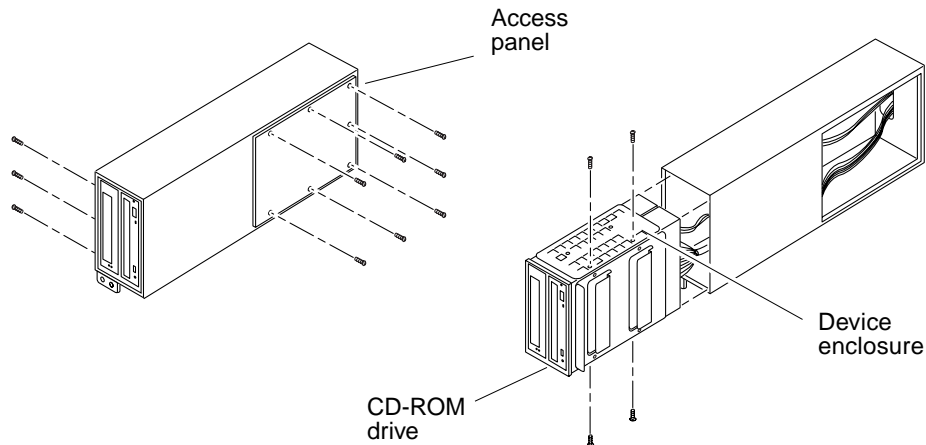
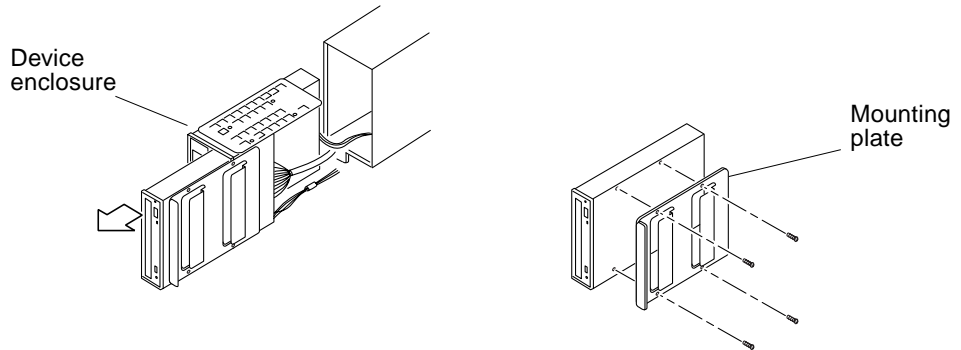

FIGURE 1-15 Removing the SCSI Tray Access Panel and Device Enclosure
FIGURE 1-16 Removing the CD-ROM drive and Mounting Plate
1. Remove the seven screws holding the access panel to the SCSI tray (FIGURE 1-15).
3. Release the device enclosure from the SCSI tray by removing three screws on the left-hand side. Pull the device enclosure out from the SCSI tray (FIGURE 1-15).
4. Remove the CD-ROM drive by removing the four screws securing the drive to the device enclosure, two at the top and two at the bottom (FIGURE 1-15) and then pull the drive free of the enclosure (FIGURE 1-16).
- d. Remove the four screws fastening the mounting plate to the CD-ROM drive and then use the same screws to attach it to the replacement CD-ROM drive (FIGURE 1-16).
2. Place the new CD-ROM drive into the device enclosure and replace the four screws (FIGURE 1-15).
4. Place the enclosure into the new SCSI tray and secure with the three screws removed in Step 3 (FIGURE 1-15)